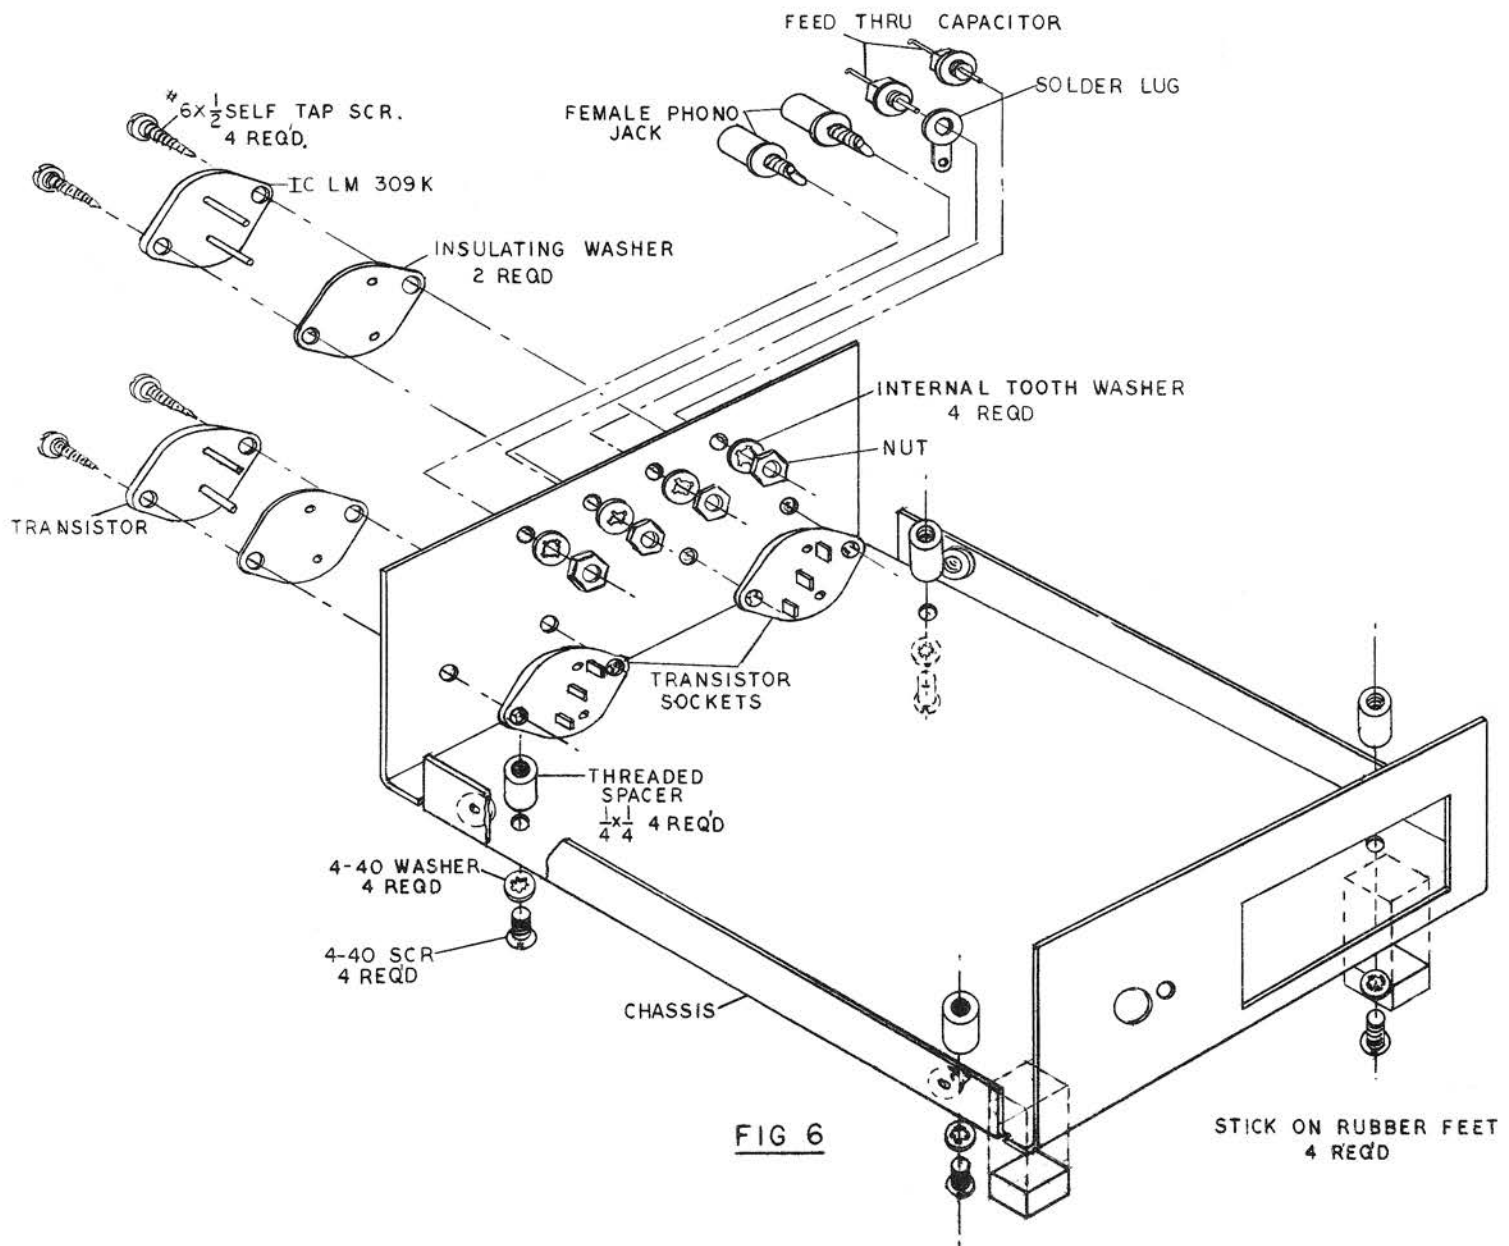

FIG 6
b.) Solder each wire from the rear panel to its connecting pin as shown in Figure 6 using the following procedure: Strip the insulation back about 1/4 inch on each wire and tin the bare end. Heat the side of the connecting pin and fill the hole with solder. Slip the wire into the end of the pin while applying heat. This will insure a solid connection.